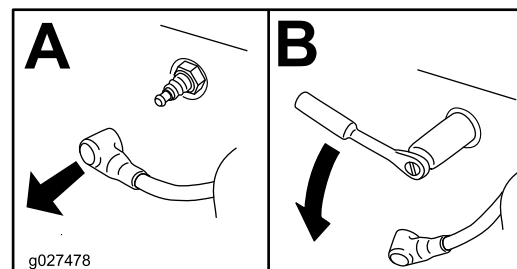

Figure 59
3. Remove the spark plug (Figure 59).